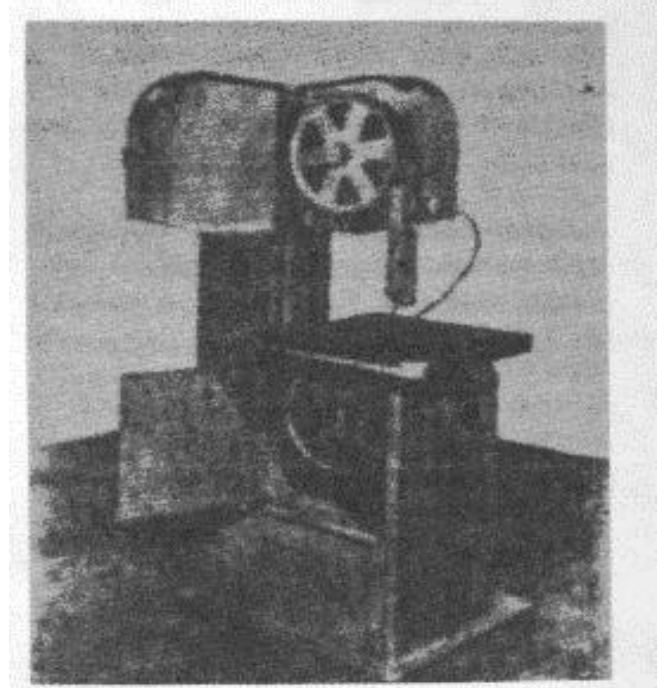

Fig. 9 - Installing a saw band. Open the doors, slip band under column guard and fit over wheels.
(1) Open both saw wheel doors (fig. 9)..
(2) Remove the band guard mounted on the post.